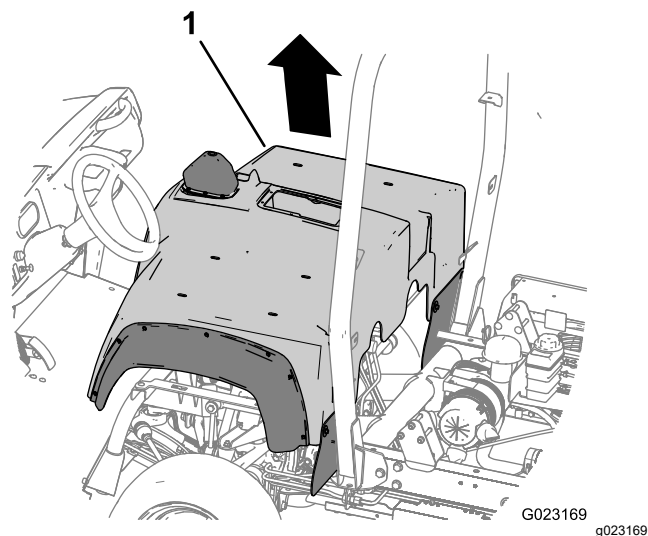

Figure 12
3. Lift the seat shroud up and remove it from the machine (Figure 12).